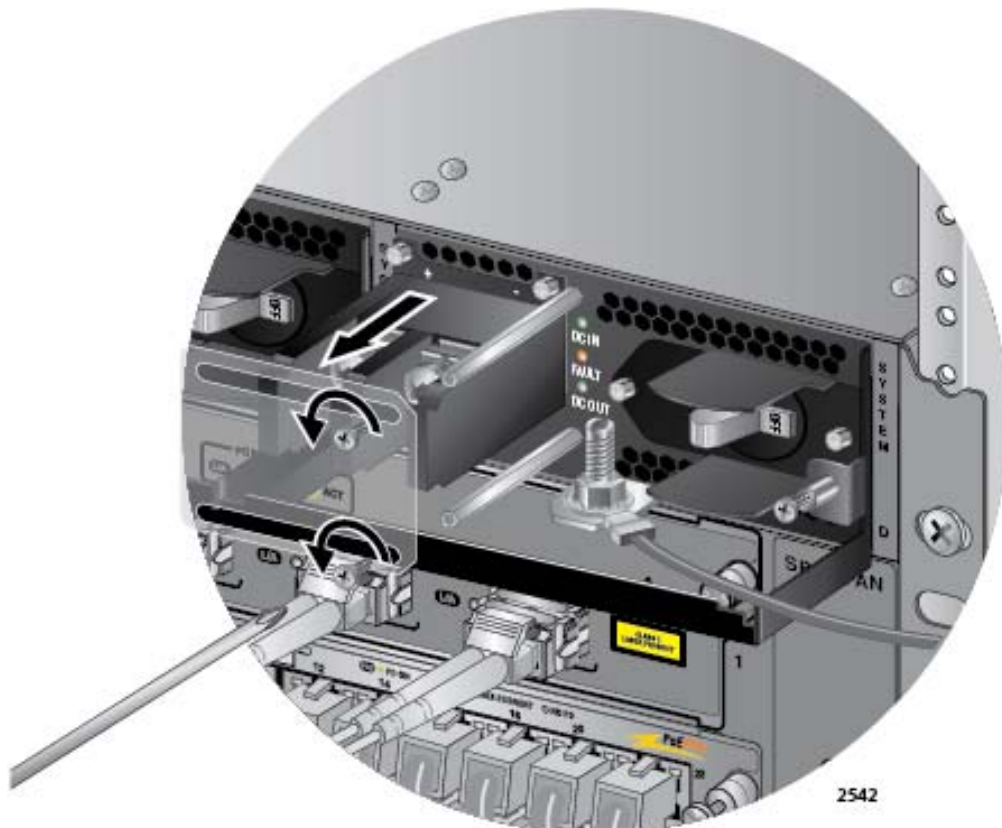

Figure 131. Removing the Plastic Cover
4. Using a #1 Phillips-head screwdriver, remove the two screws that secure the plastic cover over the positive and negative terminals and remove the plastic cover from the power supply, as shown in Figure 131. You may need to lift the locking handle slightly to access the bottom screw.